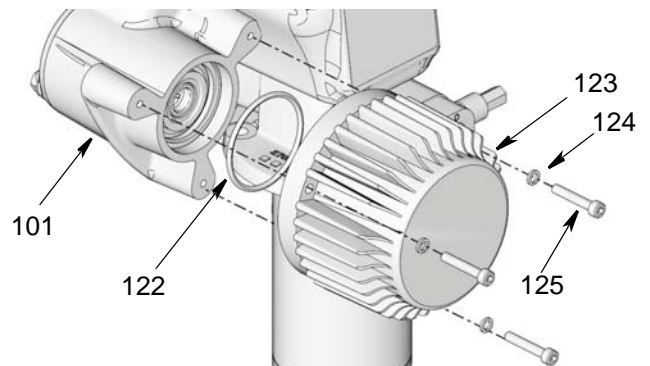

**FIG. 57**
- Use a wrench to loosen strain relief (a) and remove wiring harness from housing (FIG. 57).